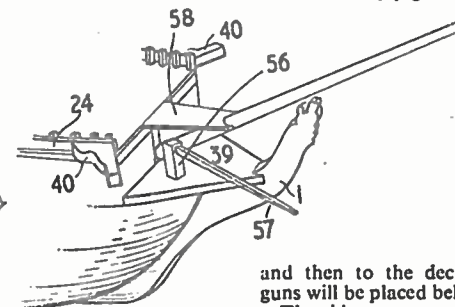

Fig. 5
Piece 39 is next glued in the position shown in Fig. 5. The cat heads (40) must be shaped to conform with the
Next cut out pieces 56, 57 and 58 and glue to piece 39 (Fig. 5). The crows' nests (52 and 53) and pieces 54 and 55 are next in the order of cutting.